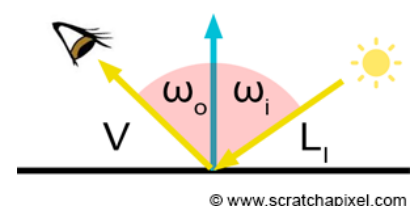

Figure 6: incoming I and outgoing V direction.
Where ω_o and ω_i are the angle between the surface normal (N) and the view direction (V) and the surface normal and the light direction (I) respectively (figure 6). The subscript o stands for outgoing. In computer graphics, this function is given the fancy name of **Bidirectional Reflectance Distribution Function** or in short **BRDF**. A BRDF is nothing else than a function that returns the amount of light reflected in the view direction for a given incident light direction:
We will finish this chapter on the concept of specular lobe which you may have heard or read about. When a surface is rough, it reflects light in directions slightly different from the perfect reflection direction but centred around it. You can draw or visualise this process by drawing some sort of elongated shape centred around the reflection direction as shown in figure 6. This represents in a way the set of possible directions that the surface reflects light into. This is what we call in CG, the lobe of the specular reflection. In figure 7 we represented this lobe as a two-dimensional shape but the shape should actually be three-dimensional. The shape of this lobe changes with the incoming light direction. This is a property that most materials have. They have a unique way of reflecting light for each possible incoming light direction. This lobe or the shape of this lobe can be quite complex for real material. We can acquire it using an instrument called a gonioreflectometer. The function of this instrument is to measure how much light a given material reflects in every possible direction above its surface for a given incoming light direction. The shape of the resulting three-dimensional data totally depends on the material property. If the material is more diffuse the result will look like a hemisphere. If the material is more specular, there will be a long elongated lobe oriented about the reflection direction. Data acquired from real material is very useful to either derive mathematical models that can be used to simulate a given material or validate the accuracy of a given BRDF model. If the BRDF model behaves like the measured data (it reflects light the same way) then the model is a good candidate for simulating the appearance of the measured material. Note that when you look at the reflectance function of measured materials, you can see that they often have more than one lobe. In CG, we simulate this effect by combining several lobes with different parameters and weight. For example in figure 7, in the bottom figure we